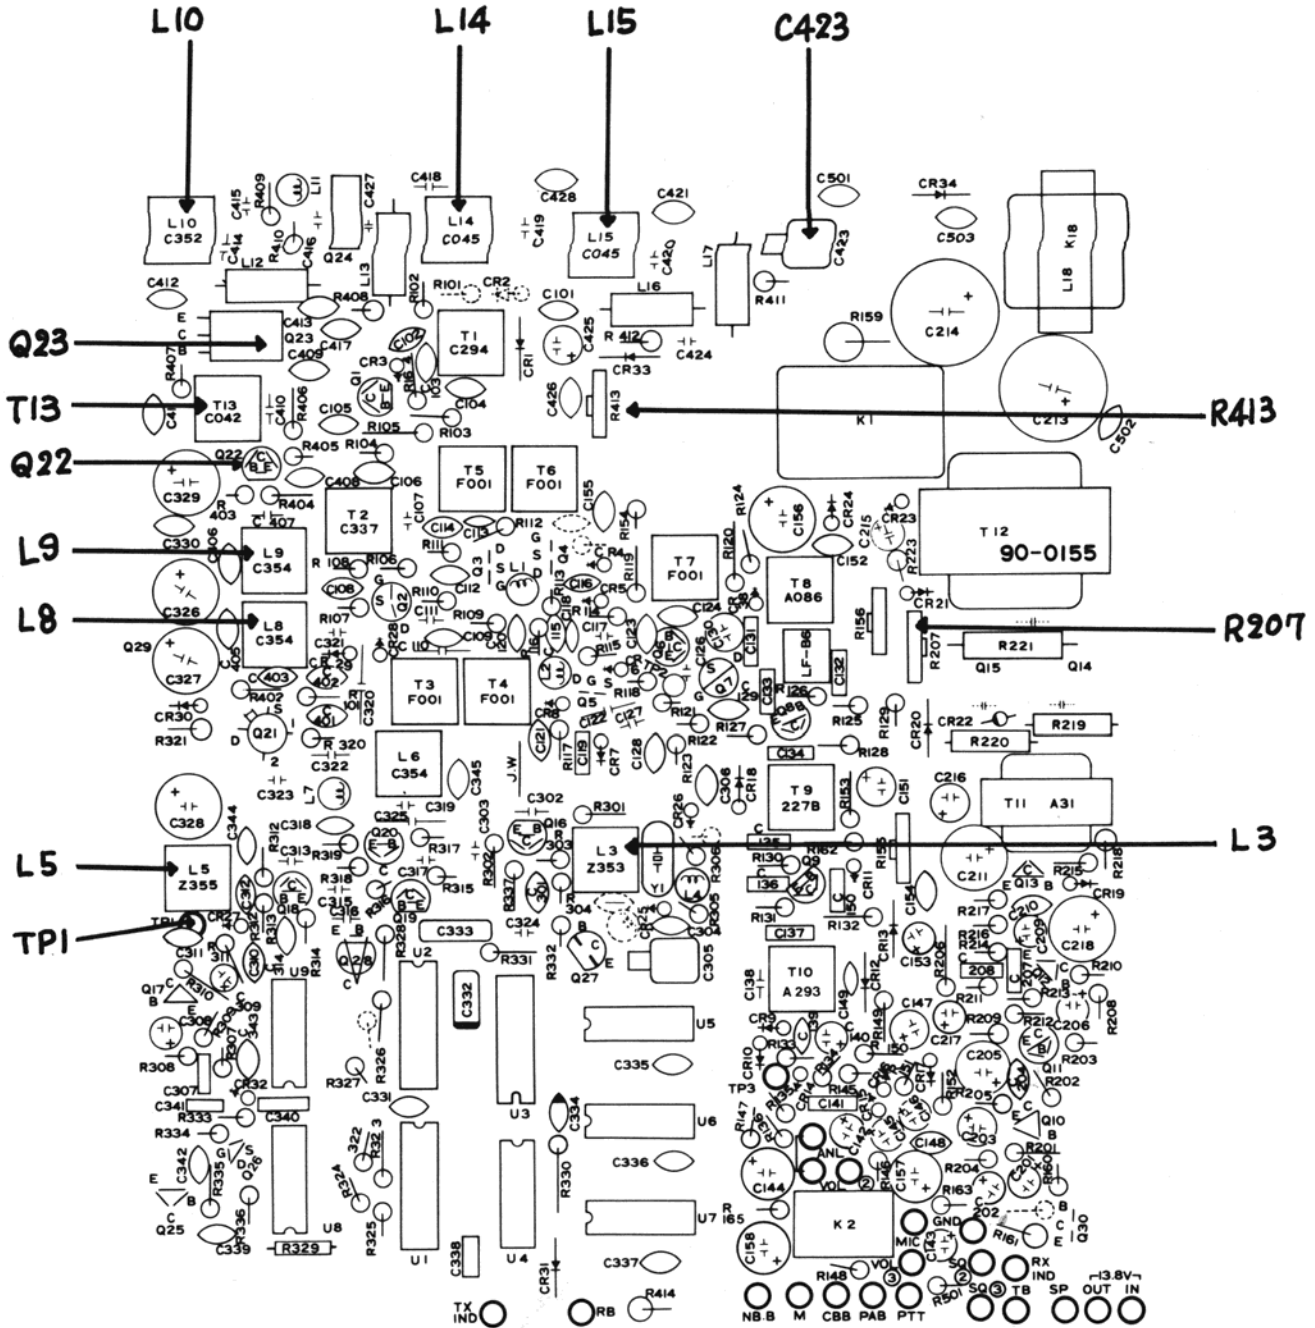

Figure 5-1 PLL and Transmitter Adjustment Locations
- b. Connect a DC voltmeter to the cathode of CR27 (TP1). Refer to Figure 5-1.
- b. Connect an RF millivoltmeter to the base of Q22. See Figure 5-1.